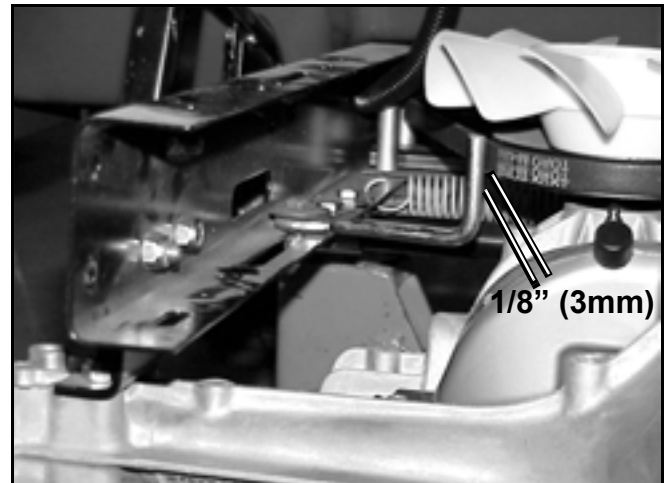

Figure 134
6. Adjust and tighten the transaxle belt guide. Make sure it is adjusted so it is within 1/8" (3mm) of the transaxle pulley (Figure 134).